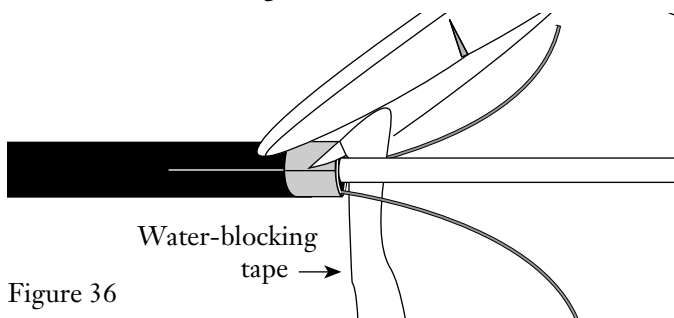

Figure 36
7.23 Cut away the water-blocking tape flush at the tape marks with scissors (Figure 36).